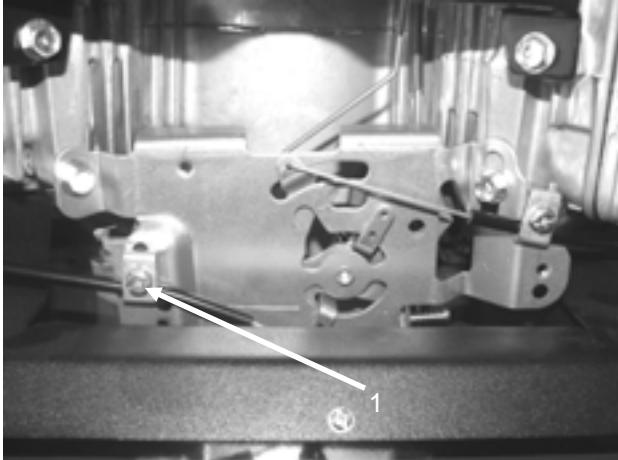

Figure 38
1. Using a 5/16" socket, loosen the cable clamp and remove cable end **Figure 38**.